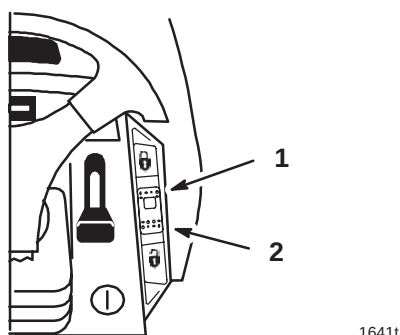

Figure 15
The cruise control is optional on some models. A 3 position: Set-Lock (spring loaded), On and Off-Unlock dash switch (Fig. 15) controls the engagement. Cruise control maintains the traction control position without foot pressure. Cruise control is intended for operation in the forward direction only. Do not use cruise control in reverse.
1. Begin driving tractor: Refer to Driving Forward or Backward, Page 19. While holding your foot steady on the traction control, push the cruise control switch (Fig. 15) to the set-lock position.
1. While holding your foot steady on the traction control, move the cruise control switch (Fig. 15) to the unlock-off position.